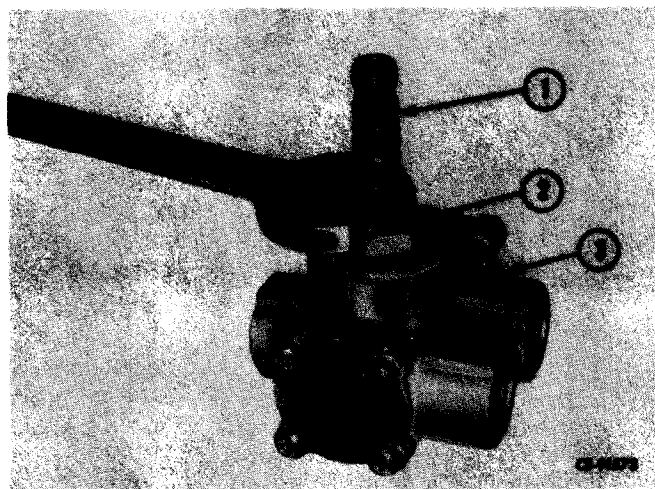

Figure 14-9
Using the special tool (refer to "SPECIAL TOOLS") (2, Fig. 14-9), unscrew sleeve (1) from body (3).
Slide sleeve (1, Fig. 14-9) over plunger and thread it into body (3) hand tight. Using special tool (2), tighten sleeve. (Refer to "SPECIAL TOOLS.")